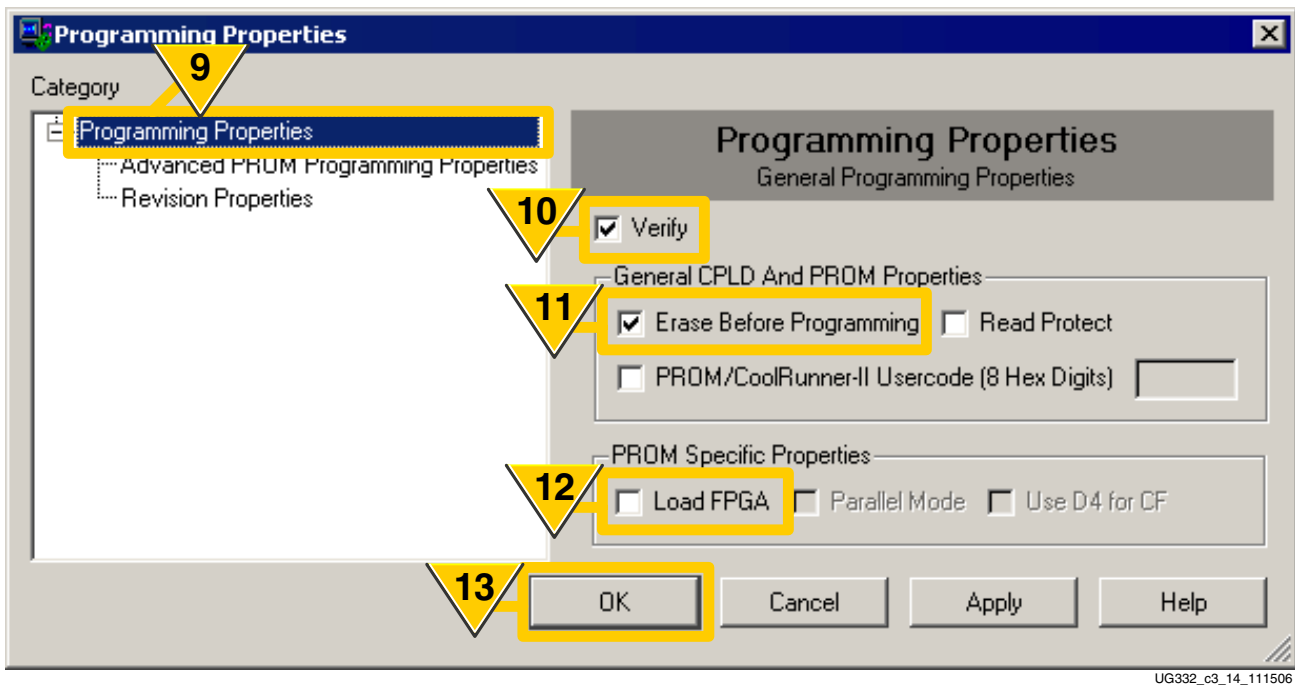

Figure 3-19: PROM Programming Options
- Click **Programming Properties**, as shown in Figure 3-19.